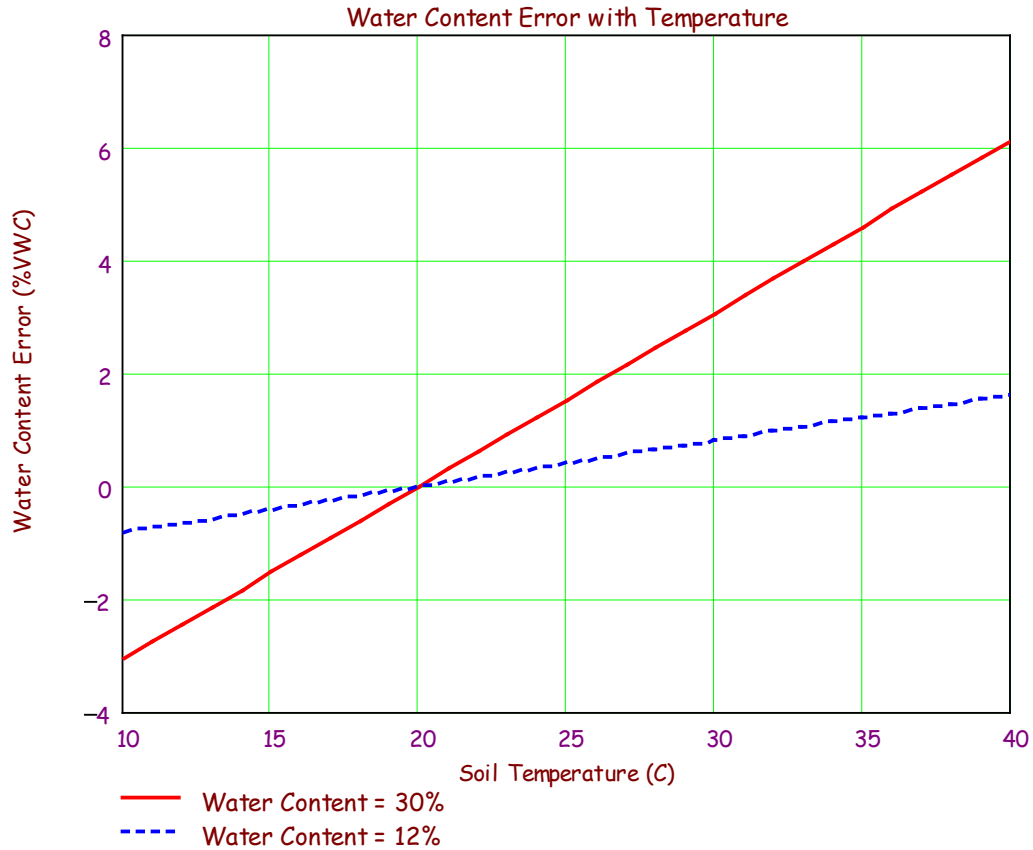

FIGURE 8-4. Percent volumetric water content error adjusted with temperature correction equation
FIGURE 8-4 shows the error in measured volumetric water content caused by the temperature dependence of the CS616/CS625. The magnitude of the temperature sensitivity changes with water content. Laboratory measurements were performed at various water contents and over the temperature range from 10 to 40 °C to derive a temperature correction for probe output period. The following equation can be used to correct the CS616/CS625 output period,  $\tau_{\text{uncorrected}}$ , to 20 °C knowing the soil temperature,  $T_{\text{soil}}$ . See Appendix C.2.2, *CR200(X) Program with Temperature Correction* (p. C-6). The temperature correction assumes that both the water content and temperature do not vary over the length of the probes rods.